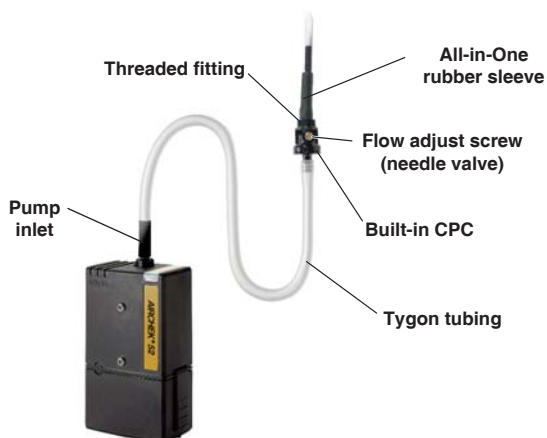

Figure 2. All-in-One Low Flow Holder Connected to AirChek 52
Using the All-in-One Low Flow Holder (Figure 2)
1. Replace the representative sorbent tube used for calibrating flow with a new unexposed sorbent tube for sample collection. **Note:** Ensure sorbent tube fits snugly in rubber sleeve of the All-in-One before sampling to avoid any air leakage. Two sleeves, each a different inner diameter (ID), are supplied.
2. Place the tube cover over the tube (Figure 2) and thread it into place on the All-in-One low flow holder.